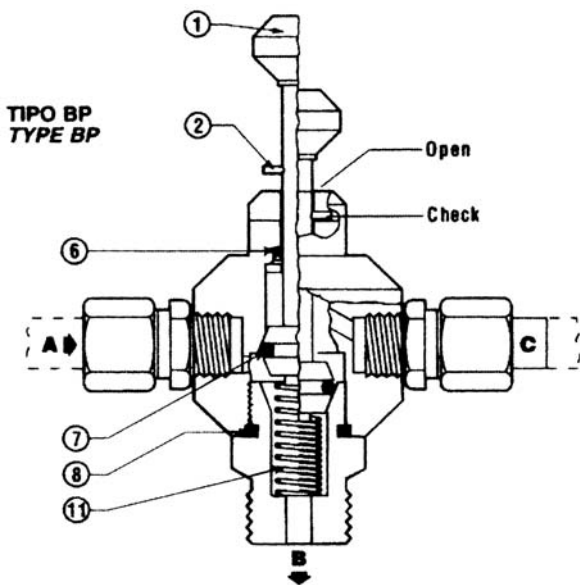

Fig. 8
Intervention of the slam-shut device can also be provoked manually by means of the release button 22. The connection between the control head 11 and the Pa control point can be made with the intrposition of a device "Push" Fig. 8 which makes it easy to control the operation of the pressure control device.
3.1 "PUSH" THREE-WAYS SWITCH VALVE (FIG. 8)